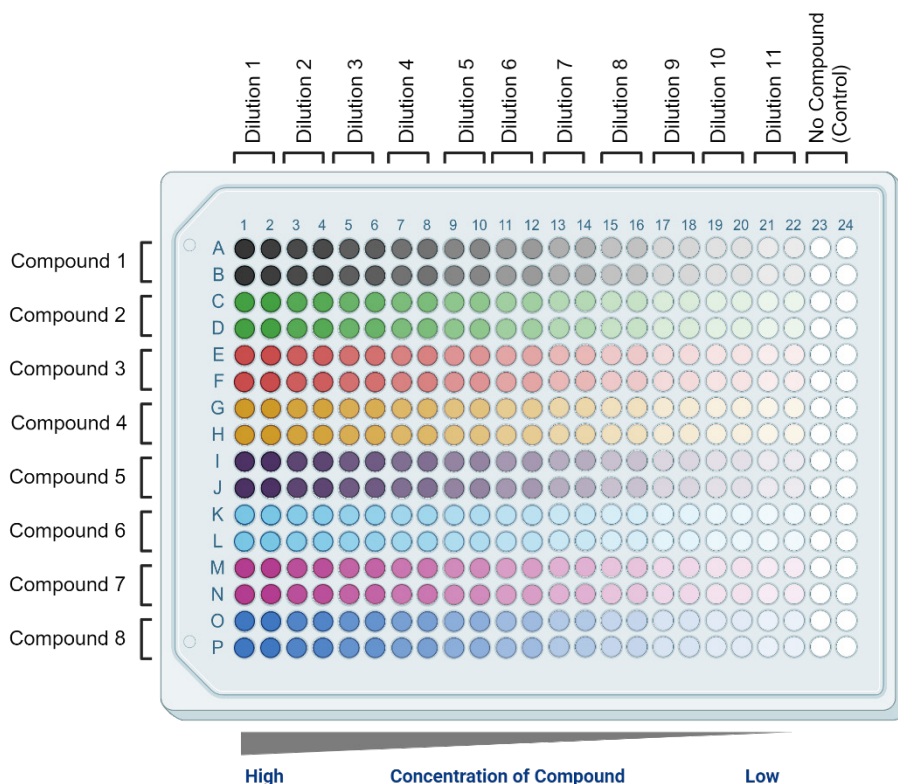

Figure 6. Compound Assay Plate Map - Agonist
2. Using a 12-channel pipette, add 5 μ L of each 5X compound serial dilution in quadruplicate into the designated compound rows of the assay plate (e.g., Compound 1, with Dilution 1 in rows A and B, Columns 1 and 2; Compound 2, with Dilution 1 in rows C and D, Columns 1 and 2). Repeat for the remaining compounds as indicated in the Compound Assay Plate Map - Agonist (Figure 6).